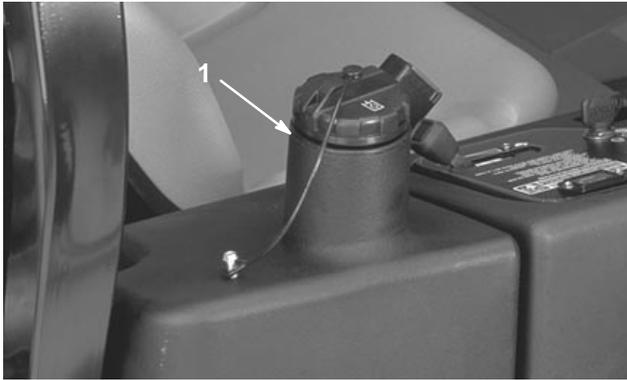

Figure 56
3. Fill the reservoir (Fig. 56) with approximately 3.5 U.S. gallons (13.2 l) of hydraulic fluid; refer to Checking the Hydraulic System, page 19.